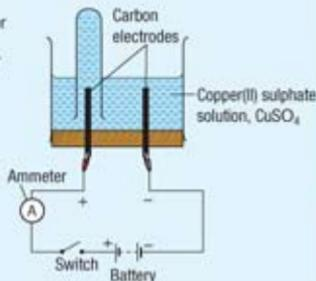

Figure 6.11
**Materials:**  $0.1 \text{ mol dm}^{-3}$  copper(II) sulphate solution,  $\text{CuSO}_4$  and wooden splinter
- 1. Prepare the apparatus set-up with an electrolytic cell half-filled with  $0.1 \text{ mol dm}^{-3}$  copper(II) sulphate solution,  $\text{CuSO}_4$ .
- 2. Fill completely a test tube with  $0.1 \text{ mol dm}^{-3}$  copper(II) sulphate solution,  $\text{CuSO}_4$  and then invert the test tube at the anode (Figure 6.11).